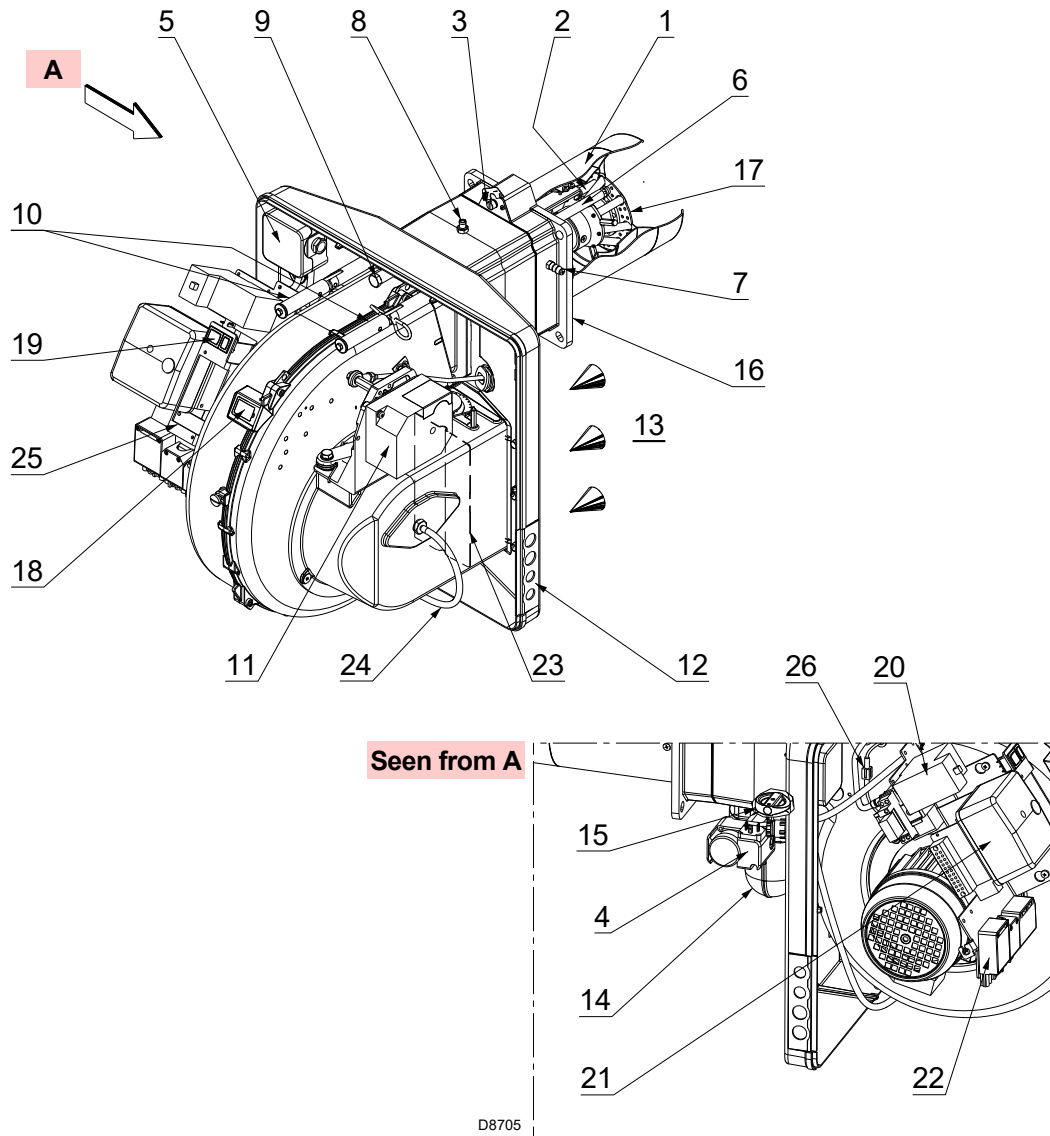

Fig. 5
(1) Reference conditions: Ambient temperature 20°C - Gas temperature 15°C - Barometric pressure 1013 mbar - Altitude 0 m above sea level.
(2) Gas pressure on the pipe coupling test point 8)(Fig. 5) with zero pressure in the combustion chamber and at maximum burner output.
(3) Sound pressure measured in manufacturer's combustion laboratory, with burner operating on test boiler and at maximum rated output. The sound power is measured with the "Free Field" method, as per EN 15036, and according to an "Accuracy: Category 3" measuring accuracy, as set out in EN ISO 3746.